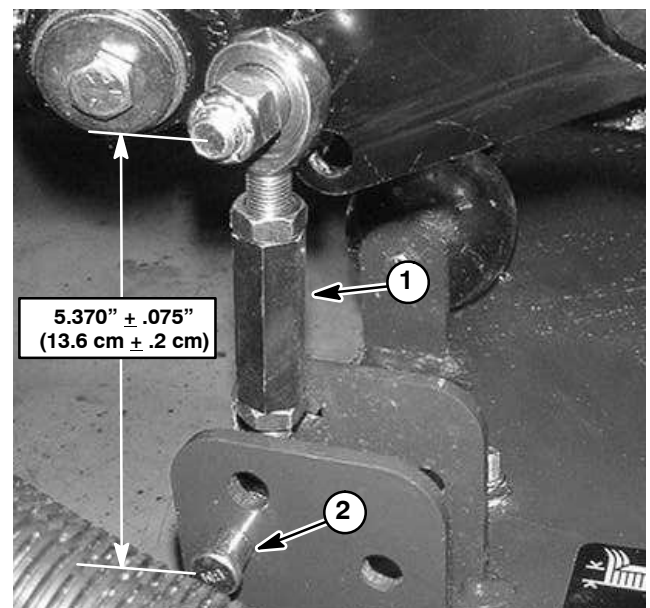

Figure 8
2. Remove hair pin and clevis pin that connects damper link to cutting deck (Fig. 8).
8. Remove two (2) cap screws and nuts securing plate to rear arm housing. Remove spring shaft assembly from housing.
10. Thoroughly pack spring with grease. Install spring shaft assembly into housing and secure plate with four (4) cap screws and lock nuts.
12. If rod ends (item 31) were removed from damper (item 30), apply thread locking compound to damper shaft threads before installing rod ends. Secure damper to bellcrank and rear arm with cap screws and lock nuts. Torque fasteners from **270 to 330 in-lb (31 to 37 N-m)**.
13. If damper link was disassembled, adjust the length of the link to $5.370" \pm .075"$ ($13.6 \text{ cm} \pm .2 \text{ cm}$) (Fig. 8).
14. If damper springs (item 37) were removed, tighten lock nuts so that bushings (item 36) are free to rotate.
3. Connect damper link to cutting deck with clevis pin and hair pin (Fig. 8).